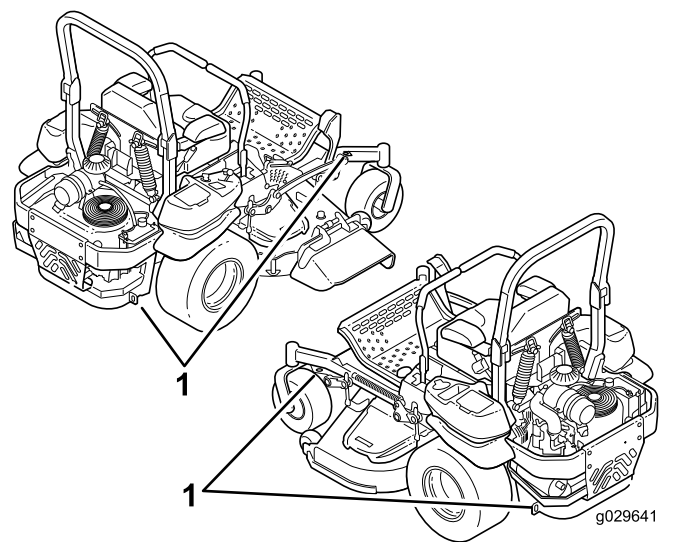

Figure 38
5. Use the tie-down loops on the machine to securely fasten it to the trailer or truck with straps, chains, cable, or ropes (Figure 38).